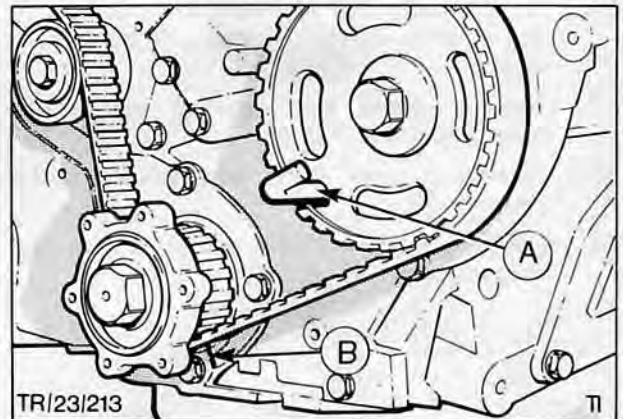

Fig. 44. Engine set on T.D.C. No. 1
14. Using the timing marks on the crankshaft pulley and peg in the camshaft gear turn engine to T.D.C. No. 1, Fig. 44.